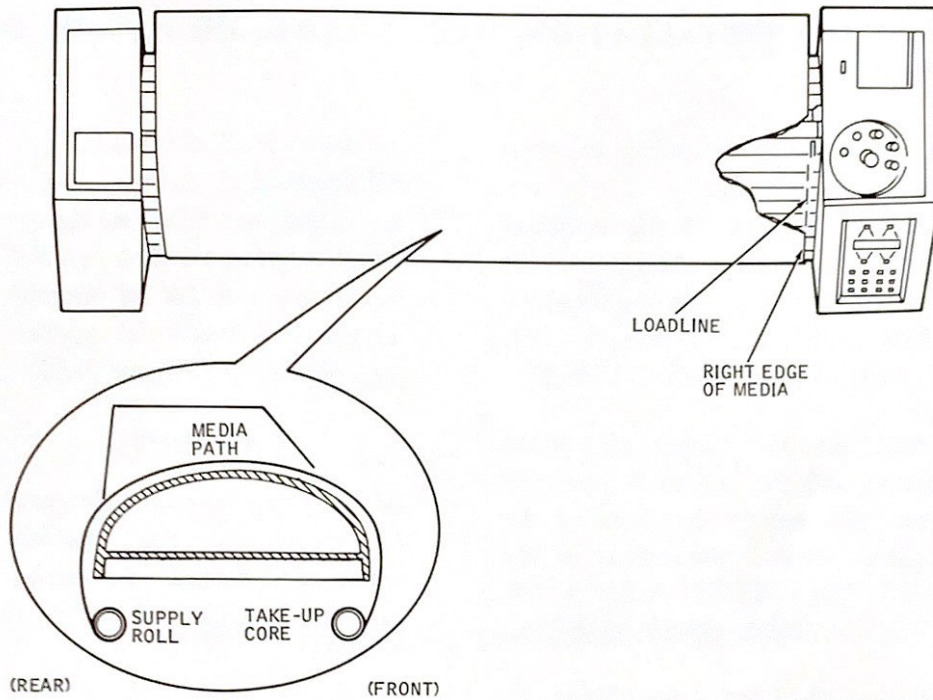

Figure 5-13. Media Loadline
4. Raise the top cover and with the pinch rollers up, align the right edge of the media with the dashed white edge of media loadline as shown in Figure 5-13.